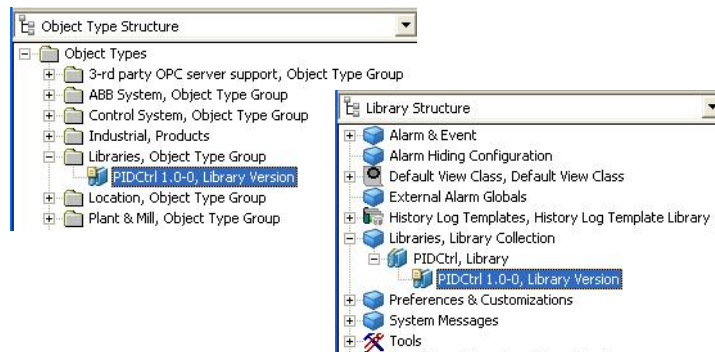

Figure 340. New Library Version in the Object Type Structure and Library Structure
- Now a Library object is created for the new library and a Library Version object for the first version of the library is created. The Library Version is also inserted in the Object Type Structure, at the specified insertion point, refer to Figure 340.